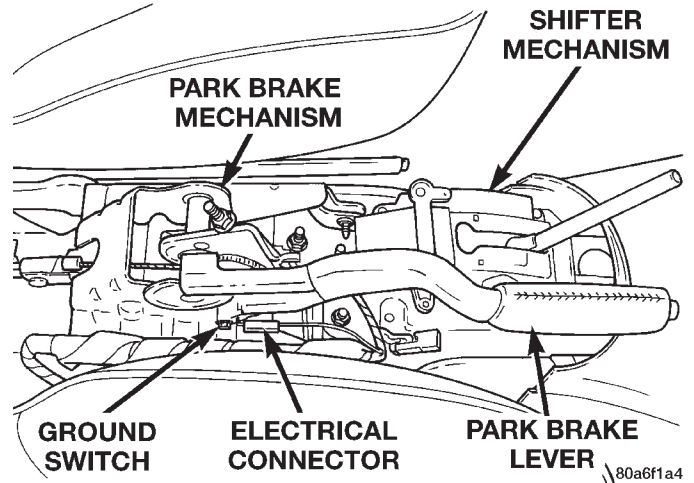

Fig. 136 Wiring Harness Connection To Ground Switch
(10) Remove the park brake cable tension equalizer from the park brake lever output cable.
(11) Remove the electrical connector (Fig. 136) from the ground switch on the park brake lever mechanism
(3) Install the electrical connector on the ground switch of the park brake lever mechanism (Fig. 136).